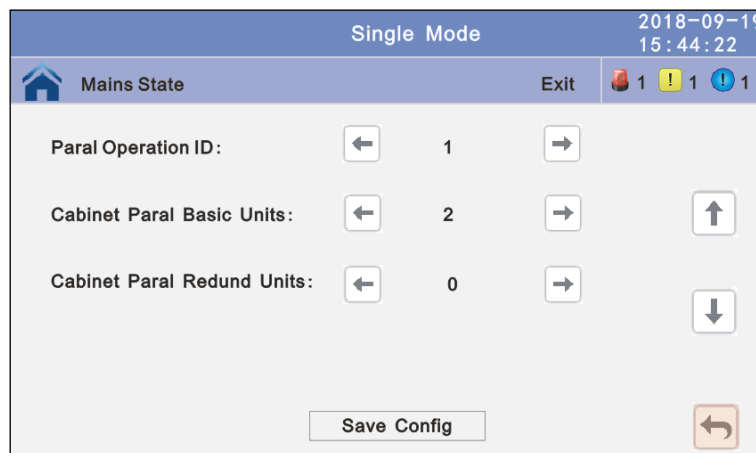

Fig. 4-31 Settings/Advanced Settings/Parallel Setting submenu
- Parallel setting submenu (Fig. 4-31)